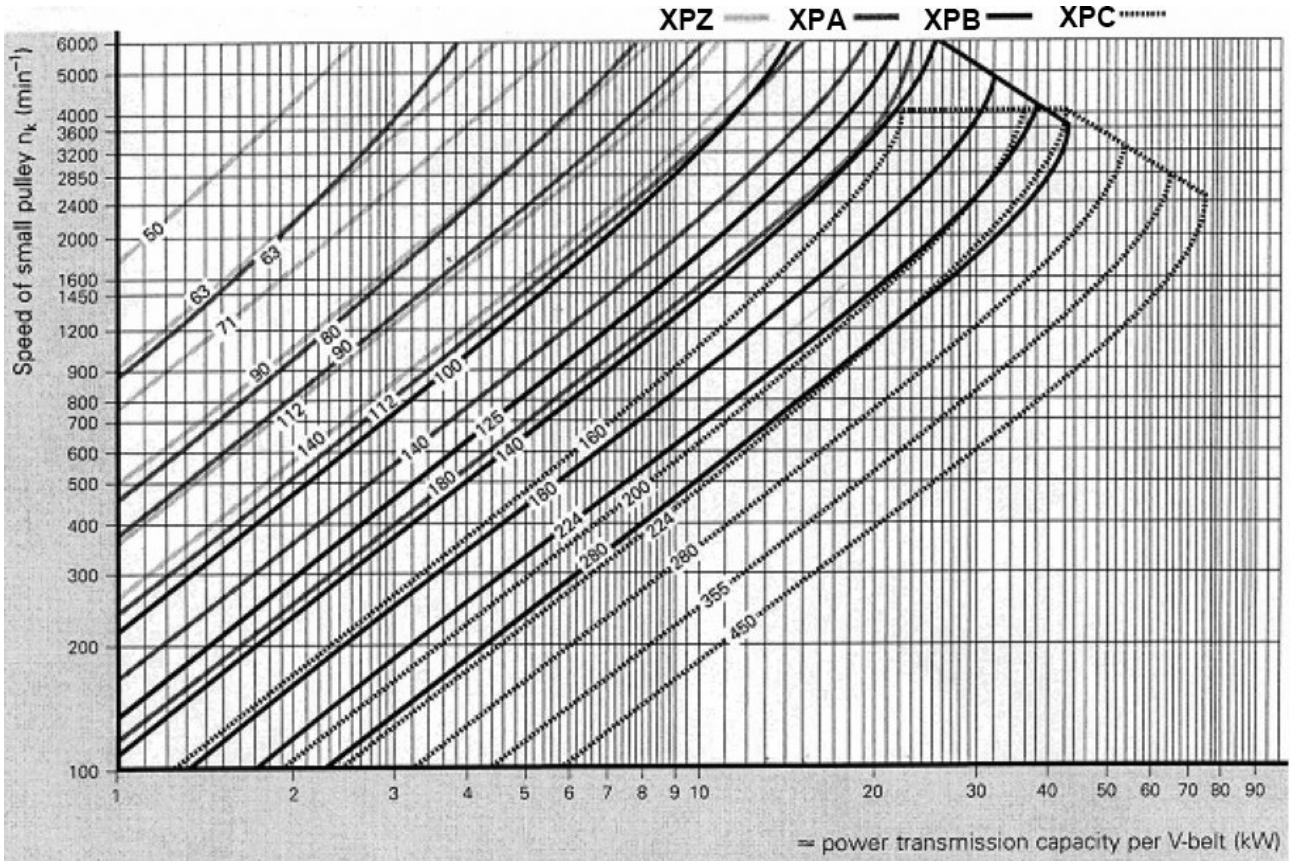
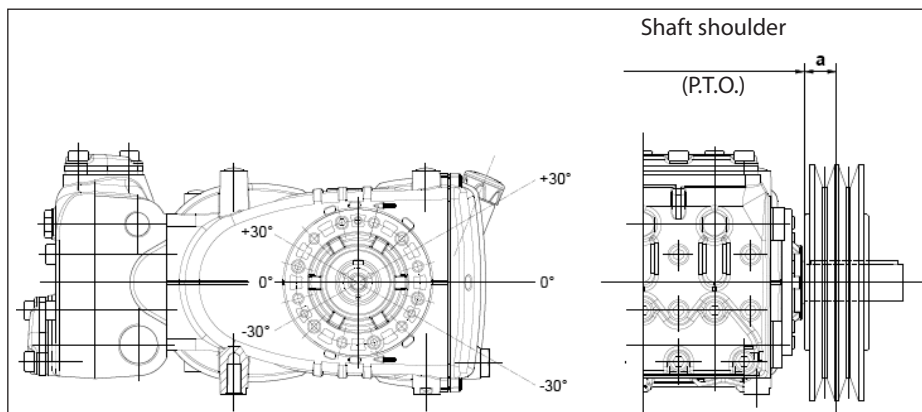

Fig. 7
Fig. 10
For these pump models, we recommend use of 3 XPB belts (16.5x13 serrated). Use an XPC profile only for long durations. Both the characteristics and transmissible power of each belt can be verified in the diagram in Fig. 7, in relation to the number of rpm normally declared by the manufacturer. Minimum duct pulley diameter (on pump shaft):  $\geq 160$  mm. The radial load on the shaft must not exceed 4500 N (value necessary for Layout definition). The transmission is considered adequate if the load is applied to a maximum distance **a = 50 mm** from the shaft shoulder (P.T.O) as shown in Fig. 10.
- b) Use high performance belts – for example **XPB** instead of **SPB** – as a lower quantity of belts for the same transmitted power may be necessary and a consequent shorter resulting distance compared to the shaft shoulder (P.T.O.) “a” of Fig. 10.
- e) Follow the direction of the belt pull as shown in Fig. 10 for other needs, contact our **Technical or Customer Service Department**.